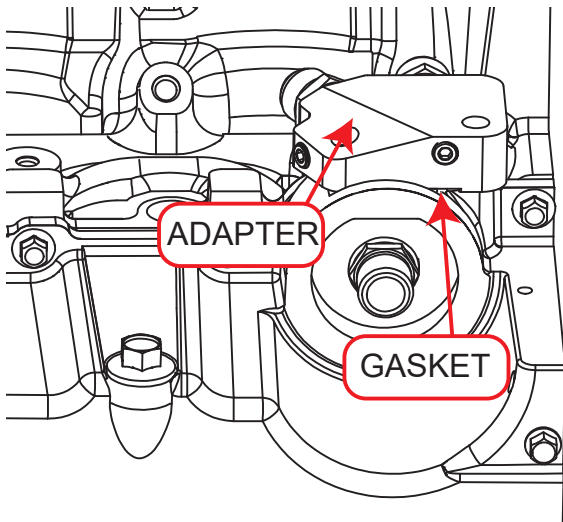

Figure 2 - Installed Adapter, Gasket and Screws
3. Use a 5 mm hex-drive bit/key to secure the gasket and adapter onto the oil pan with the M6 socket screws as shown in Figure 2. Torque part to a maximum of 120 lb-in (10 lb-ft).